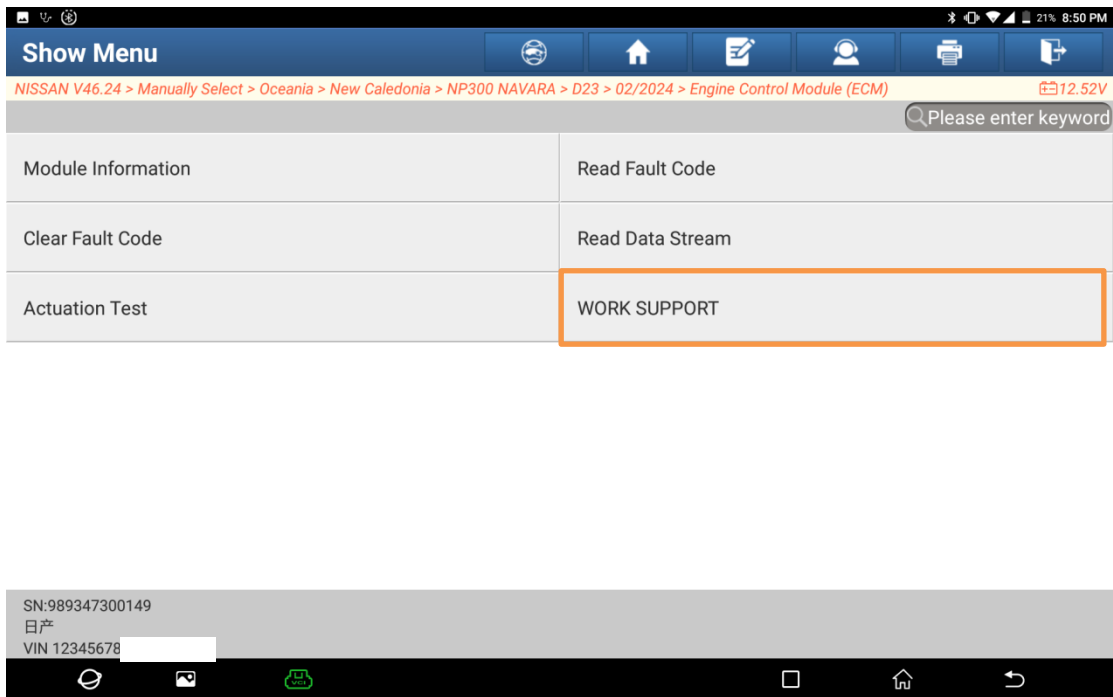

Figure 10
5. Click [ENTER] to enter the ECM menu interface (Figure 10).